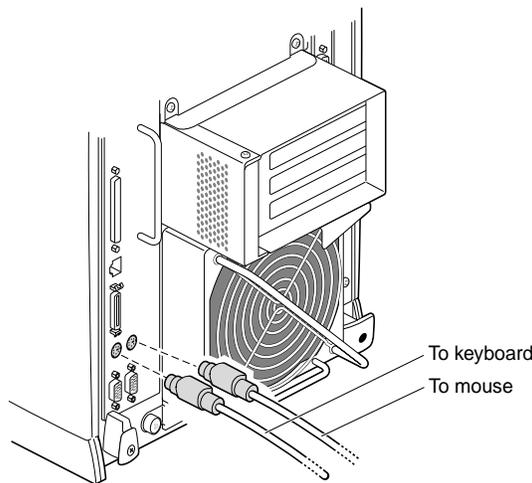

Figure 6-19 Disconnecting the Mouse and Keyboard
3. Connect the new mouse or keyboard cable to your workstation, as shown in Figure 6-19.